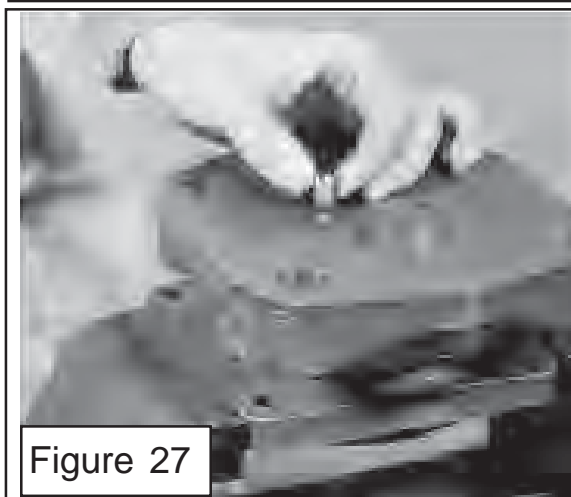

Figure 27
2. Insert the shaft end cover in the vise with the machined surface up (**figure 27**).